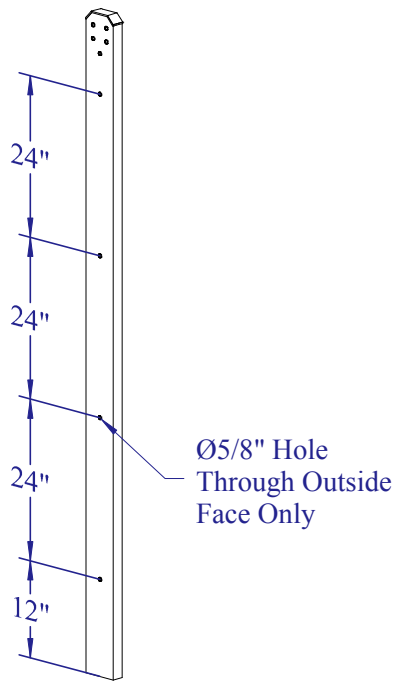
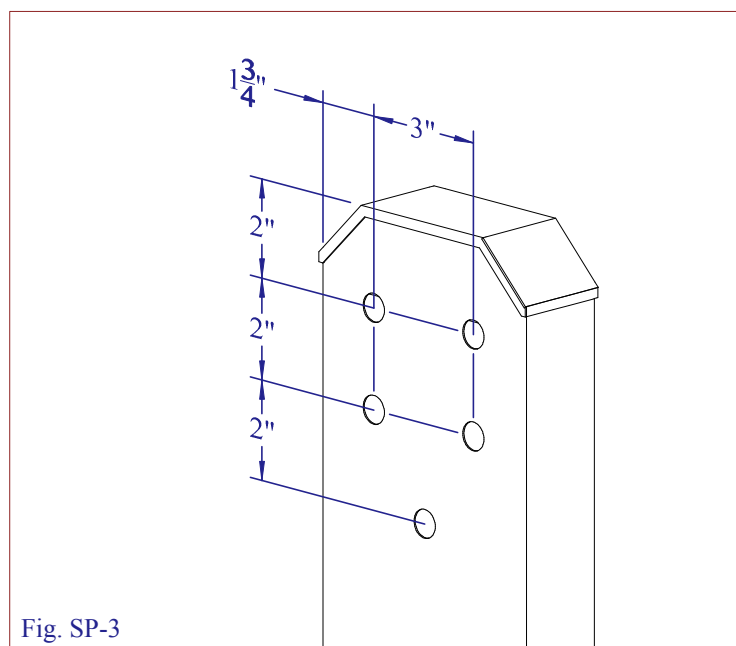

Fig. SP-1
Fig. SP-3
- Drill $\frac{5}{8}$ " holes through the front face of the side plate according to the dimensions shown in Fig. SP-1. The hole pattern at the top of the side plate may have been pre-drilled. If not, see the dimensions in Fig. SP-3.